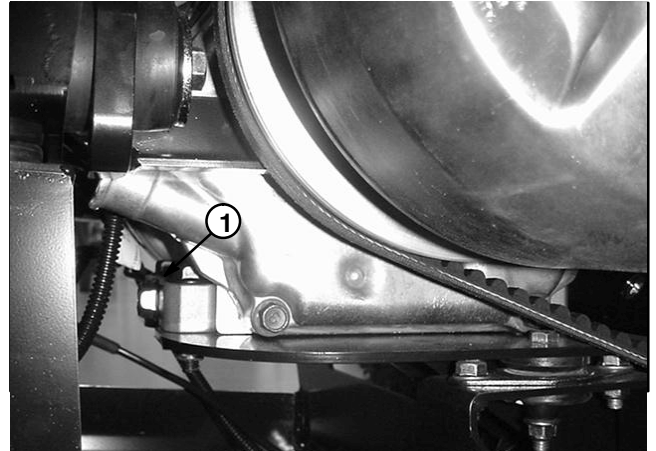

Figure 6
5. Remove drain plug and let the oil flow into a drain pan. When the oil stops, reinstall the drain plug (Fig. 6) and torque it to 13 ft-lb (17.6 N-m).